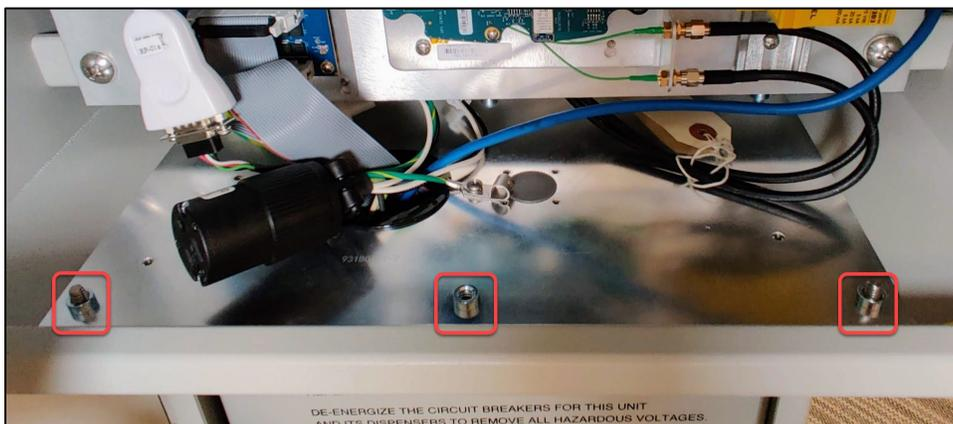

Figure 23 Installing the Interface Plate
2. Install the new interface plate and attach the cabinet to the pedestal with six screws (Figure 23).
4. Plug in the white 3-pin power connector (Figure 23).